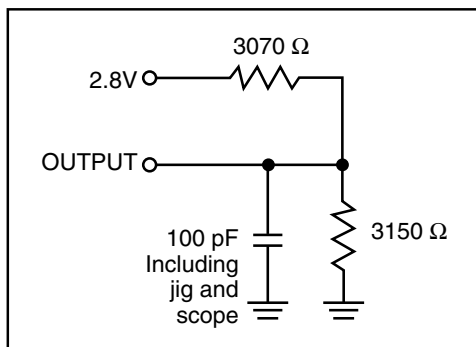

Figure 1
Output Load	See Figures 1 and 2
- Test conditions assume signal transition times of 5 ns or less, timing reference levels of 1.5V, input pulse levels of 0.4 to 2.2V and output loading specified in Figure 1.
1. Test conditions assume signal transition times of 3 ns or less, timing reference levels of 1.5V, input pulse levels of 0.4V to 2.2V and output loading specified in Figure 1.